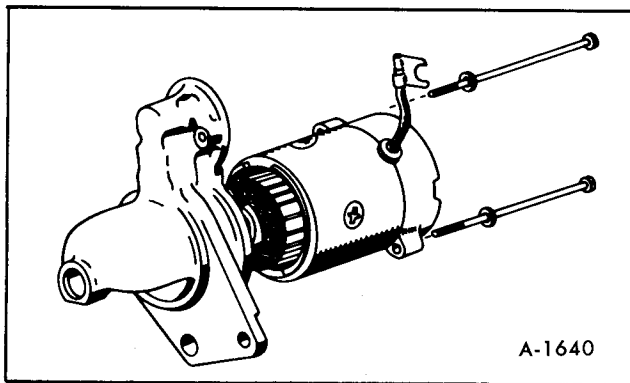

Figure 60—Removing Yoke
3. Unscrew the through bolts and separate the yoke with the rear bracket from the front bracket (figure 60).